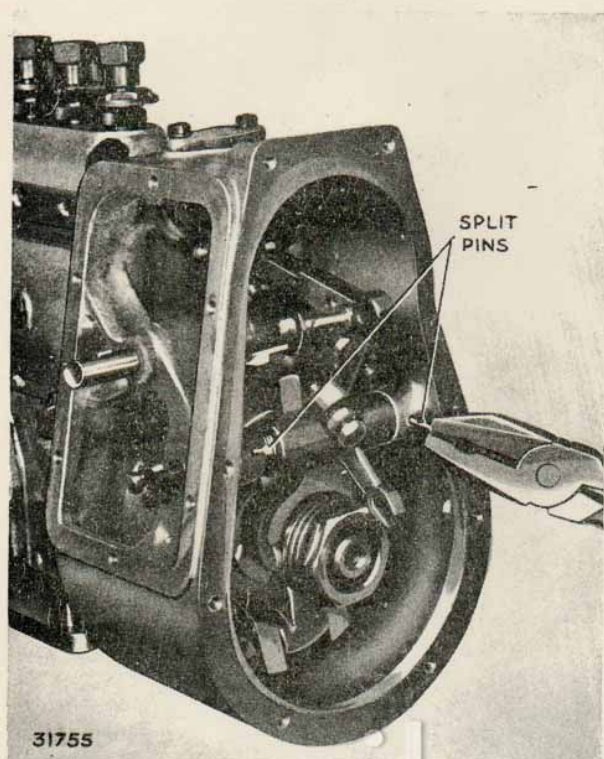

FIG. 43. REMOVING SPLIT PIN
4. Take out the split pins securing the pivot spindle (Fig. 43), screw a 1/4 in. B.S.F. bolt into the tapped end and withdraw the spindle (Fig.44). Remove the torsion spring and forked pickup lever (Fig.34).